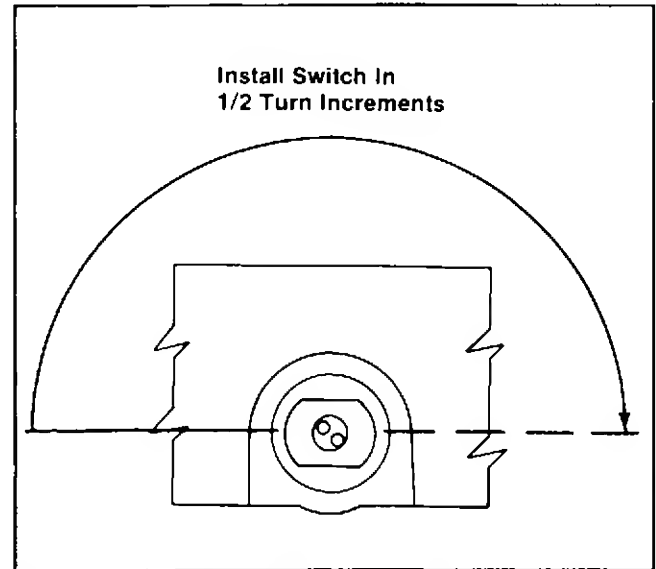

Figure 8-17. Float Switch Installation.
6. Turn the switch clockwise in 1/2 TURN INCREMENTS using a smooth continuous action. Pause briefly between Increments and keep the flat surface of switch in a horizontal position (parallel with base of oil pan.) Refer to Figure 8-17.